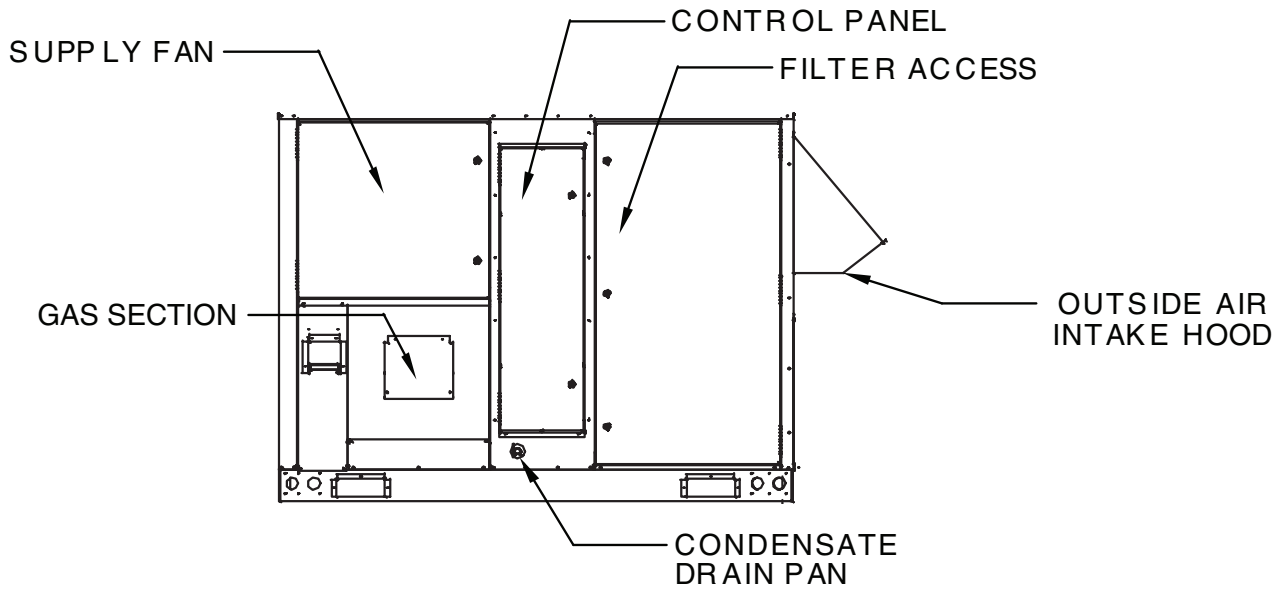

Fig. 1 — Typical Gas Section
See Fig. 1 and 2 for location of gas valve. Refer to Fig. 3 while performing the following steps.
1. Loosen the 3 latches securing the filter access door (and optional energy conservation wheel section door if installed) and open door. See Fig. 1.
See Fig. 1 and 2 and proceed as follows to inspect the combustion area and power-venting system of your unit.